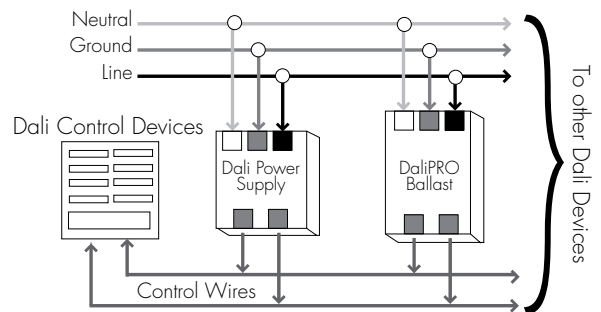

Fig. 1 DaliPRO Wiring Diagram
- Do not connect the control wires to power (See Figure 1).